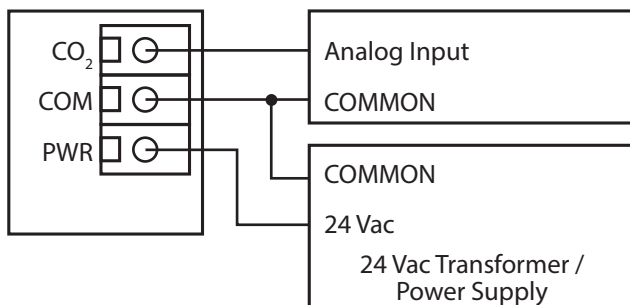

Figure 8
The optional relay output is on the N.O. RELAY terminals as shown in Figure 8. The relay output is completely isolated and has a Normally Open (NO) signal. This signal can be used to directly control an alarm or ventilation fan. See specifications for contact ratings.